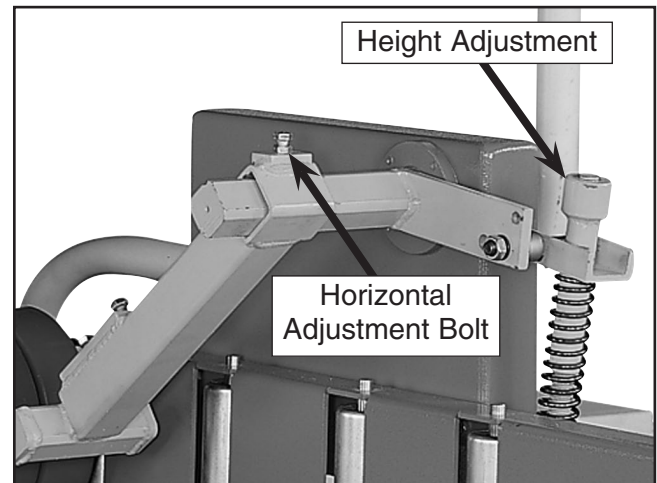

Figure 31. Pressure roller adjustments.
4. Loosen the horizontal adjustment bolt indicated in **Figure 31**, center the pressure rollers on the workpiece, then retighten the bolt and jam nut.